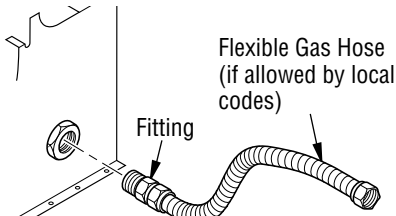

Figure 11 - Attaching Flexible Gas Hose to Heater
1. Connect approved flexible gas hose to gas control fitting in heater (see **Figure 11, Page 13**).